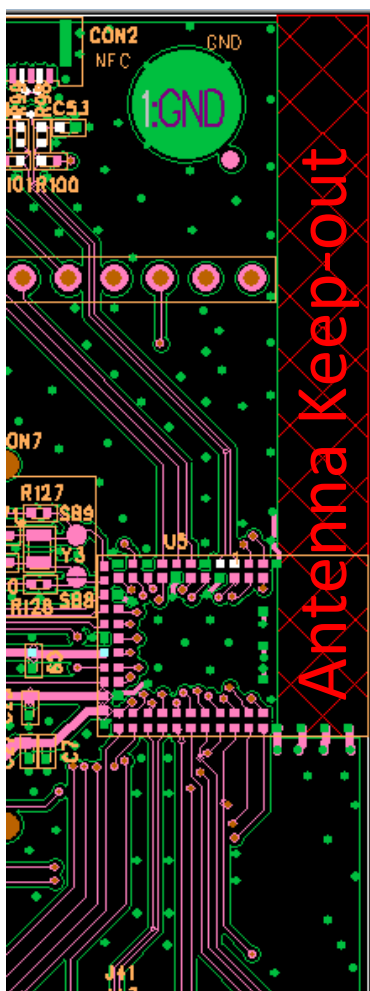

Figure 10: PCB trace Antenna keep-out area (shown in red), corner of the BL654 development board for the 451-00001 module.
- The BL654 development board has the 451-00001 module on the edge of the board (not in the corner). The antenna keep-out area is defined by the BL654 development board which was used for module development and antenna performance evaluation is shown in Figure 10, where the antenna keep-out area is ~5 mm wide, ~39.95 mm long; with PCB dielectric (no copper) height ~1 mm sitting under the 451-00001 PCB trace antenna.
- Host PCB land pattern and antenna keep-out for the BL654 applies when the 451-00001 is placed in the edge of the host PCB preferably in the edge center. Figure 10 shows an example.